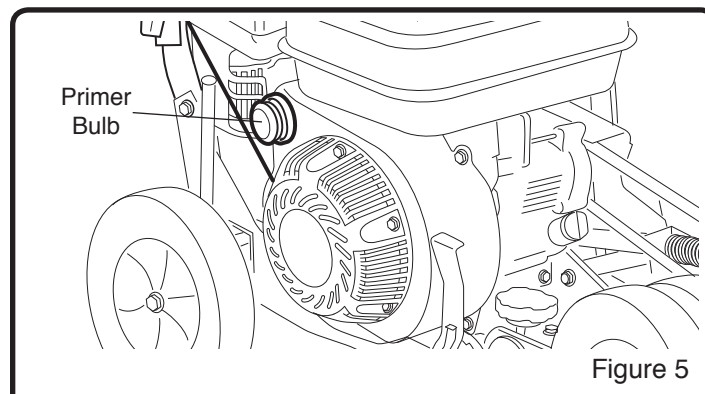

Figure 5
3. Push the primer bulb 3 times - waiting 2 seconds between each push. (See Figure 5)